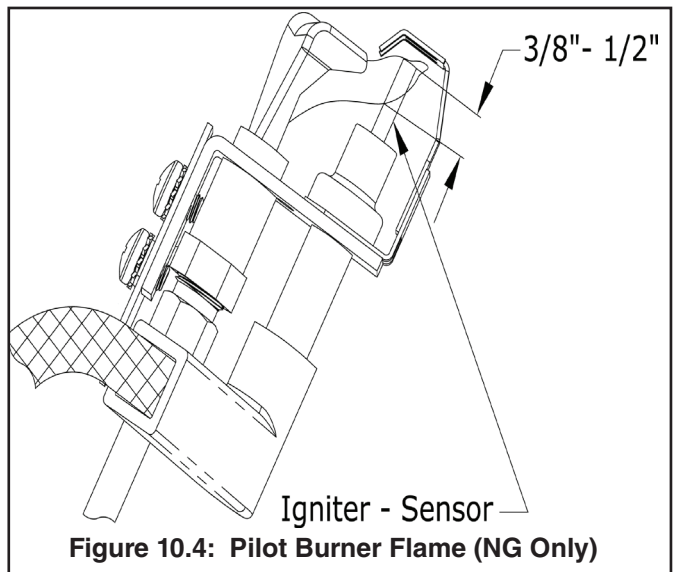

Figure 10.4: Pilot Burner Flame (NG Only)
**Natural Gas Only.** Pilot produces single flame. Flame should be steady medium hard blue enveloping 3/8 to 1/2 inch of igniter/sensor tip. See Figure 10.4